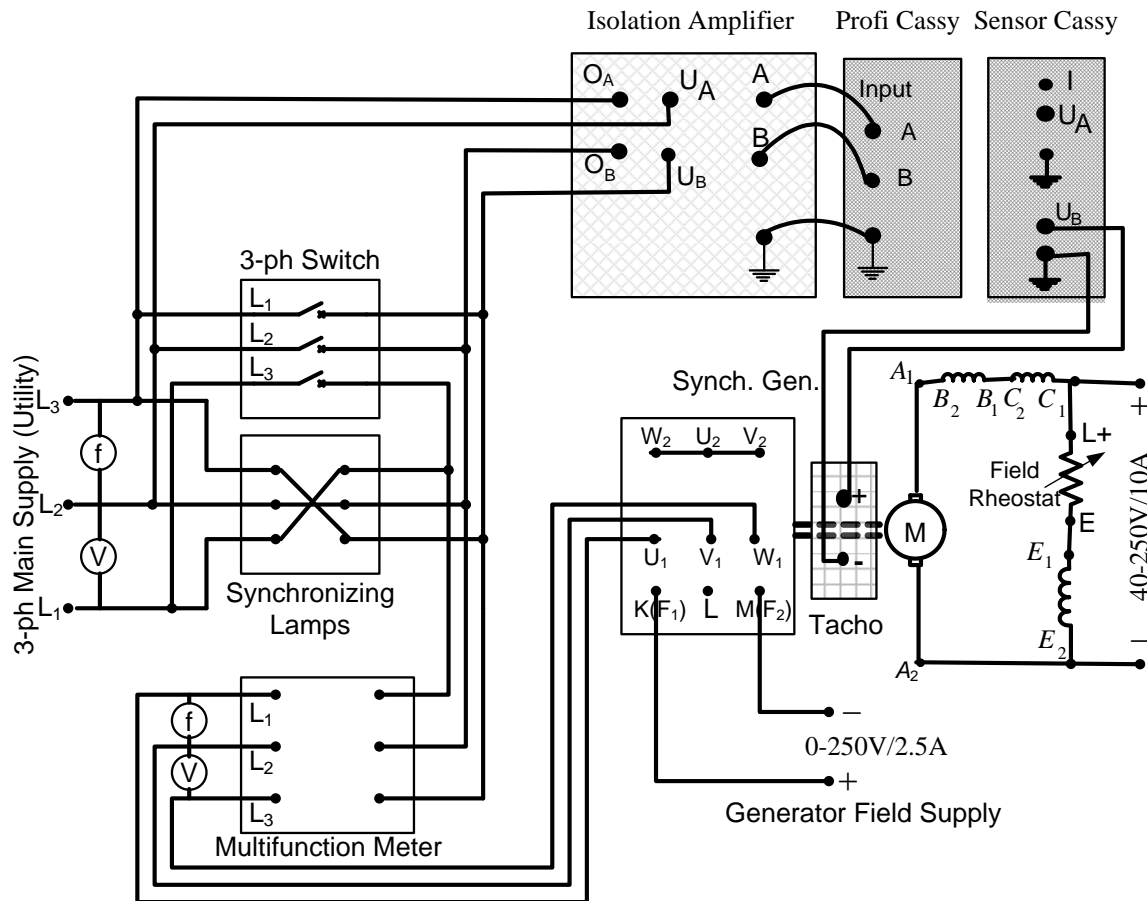

Fig. 1: Connection diagram of synchronous generator with the utility
2. Connect the circuit shown in Fig. 1.